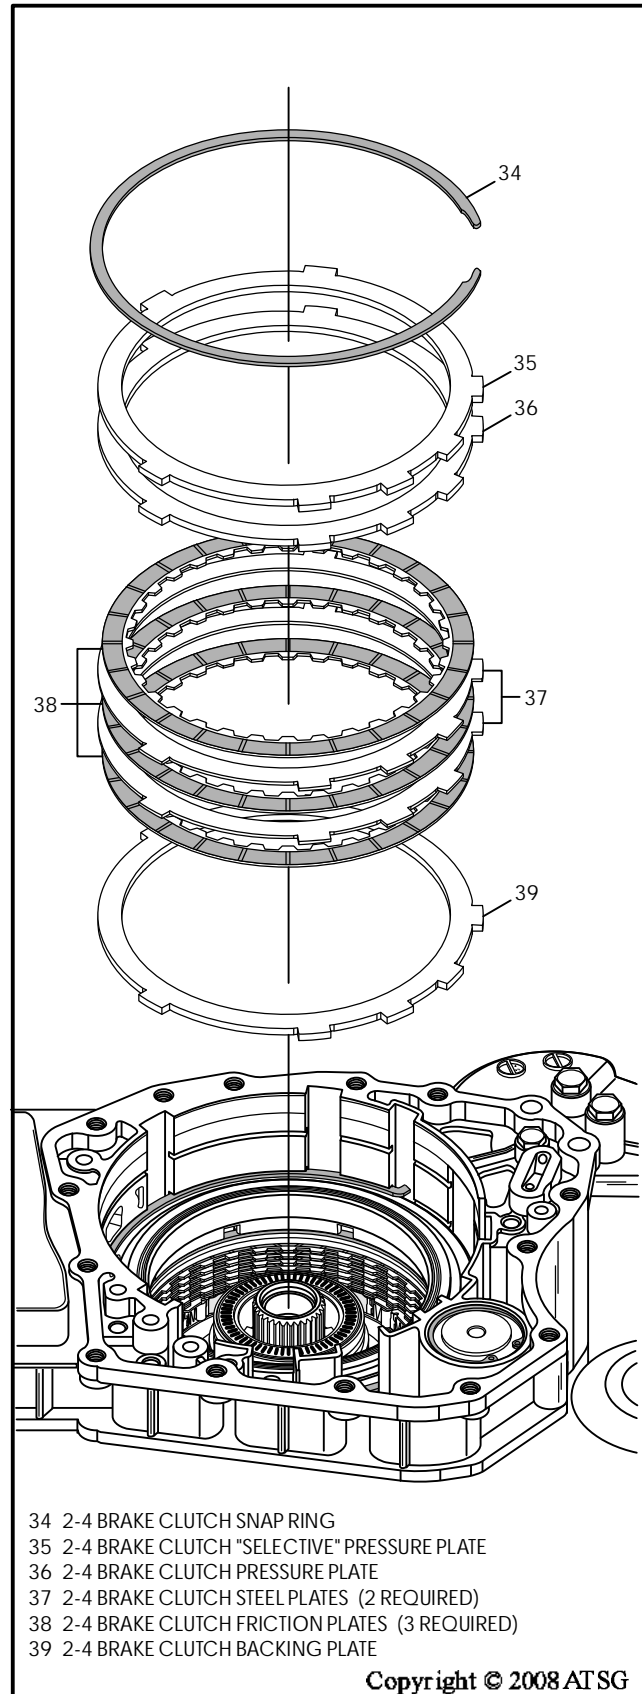

Figure 194
15. Install the 2-4 brake clutch backing plate, as shown in Figure 194.
16. Install the 2-4 brake clutch plates beginning with a friction plate and alternating with steel plates, as shown in Figure 194.
17. Install the pressure plate and selective pressure plate, as shown in Figure 194.
18. Install the 2-4 brake clutch pressure plate snap ring, as shown in Figure 194.